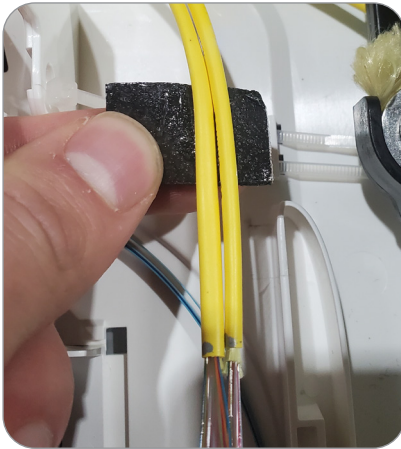

Figure 71
6. Using the AFL Foam Retention Kit included with the splice tray. Cut a piece of foam and wrap around the sub-unit. Secure in groups of two to guarantee all fiber is protected. Cinch zip ties to secure around the foam, securing them firmly into the splice tray entrance. Cut away zip tie tails and discard (**Figures 71 and 72**).